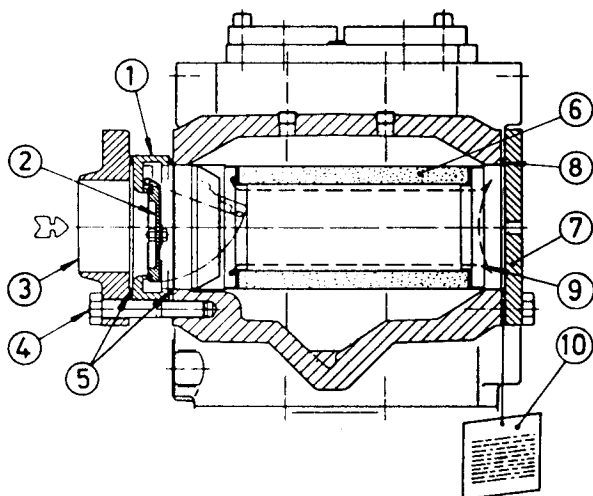

Fig. 1 Inlet to R5 compressor
The purpose of the check valve is to prevent gas from flowing rapidly through the compressor from the high-pressure to the low-pressure side when it is stopped. The check valve (1), see Fig. 1, is of the flap type, and it is mounted between the suction line and the compressor suction filter housing. When the compressor is stopped, the check valve closes so that the pressure in the compressor is equalized, thus preventing the compressor from rotating backwards.
4. Fit the suction filter and check to see that it is turned the right way relative to the check valve. See Fig. 1.
5. Fit cover (7) using a new sealing ring (8).